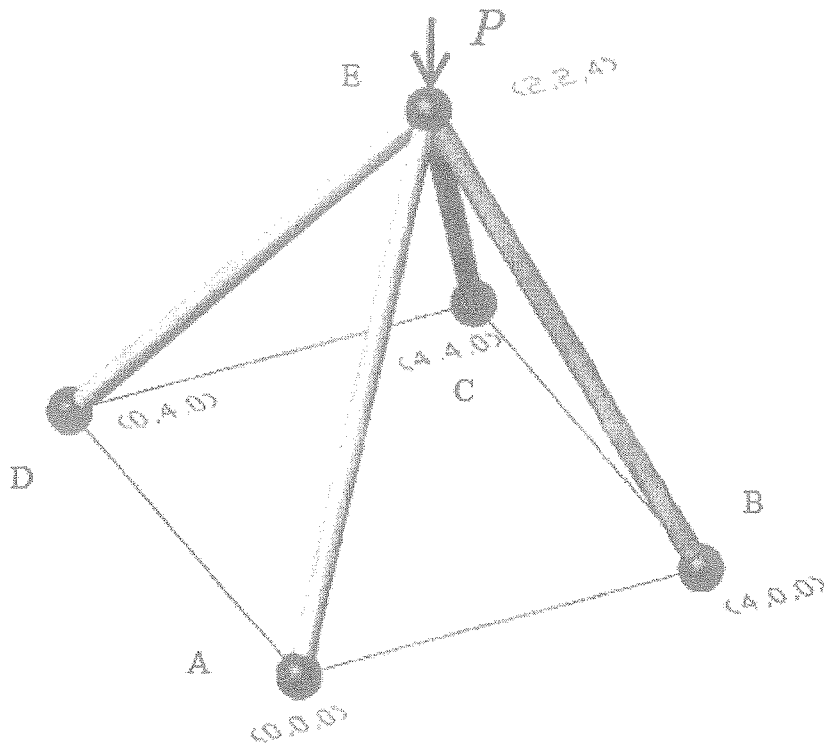

Fig. Q2
- Q2. Water fountain is to be set up at the center of a kiddie's pool 4 m above the pool level. Proposed supporting structure consists of 4 members in a form of a space truss shown in Fig. Q2. Coordinates of the nodes according to a rectangular Cartesian coordinate system with node A as the origin (0,0,0) is given in Fig. Q2. All joints are to be considered as pin-joints.
- a) i) Identify the degrees of freedom associated with each member and formulate individual element matrices for the four members (Assuming that all four members have identical stiffness characteristics, i.e. Identical Young's modulus (E) and cross-sectional area (A)) [4 Marks]